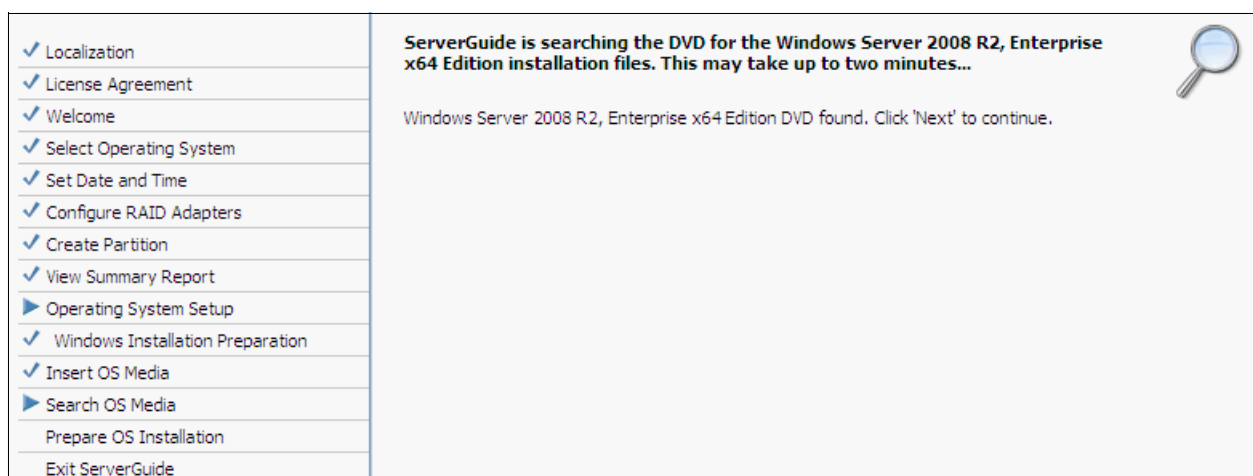

Figure 9-60 Confirmation about finding installation medium
20. When ServerGuide successfully finds the installation medium, click **Next**, as shown in Figure 9-60.